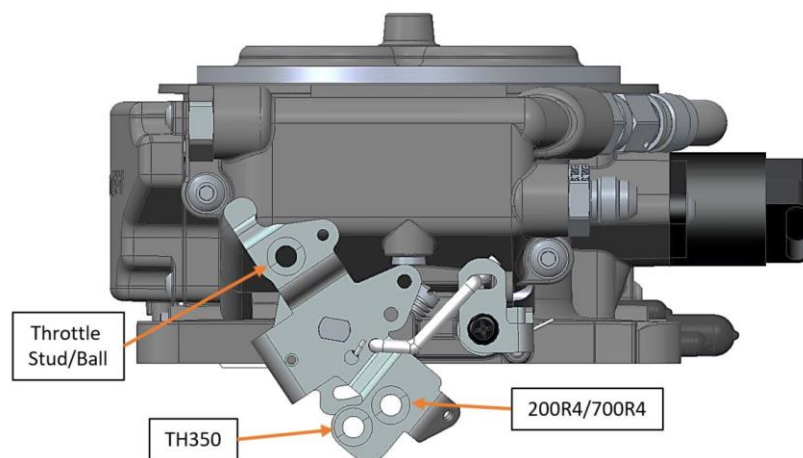

Figure 2
3. Reconnect the throttle and transmission kick-down linkage. Be sure to check for any binding conditions and correct before proceeding. Poorly routed throttle cables & linkages can cause throttle pedal issues. See Figure 2 for correct linkage placement.